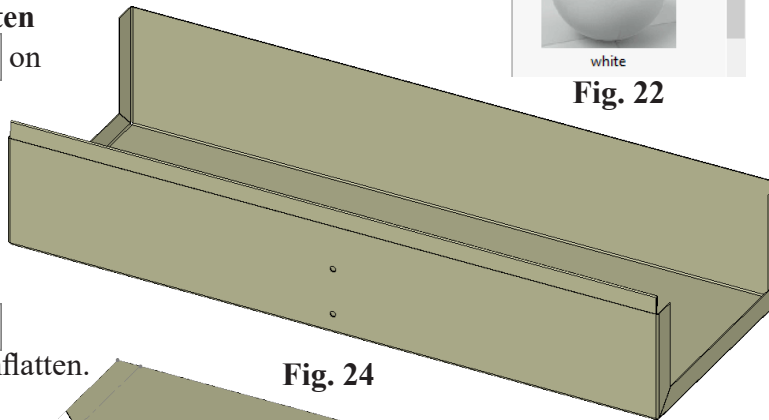

Fig. 24
Step 1. Click **Flatten**  on the Sheet Metal toolbar, Fig. 24. Click **Flatten**  again to unflatten.